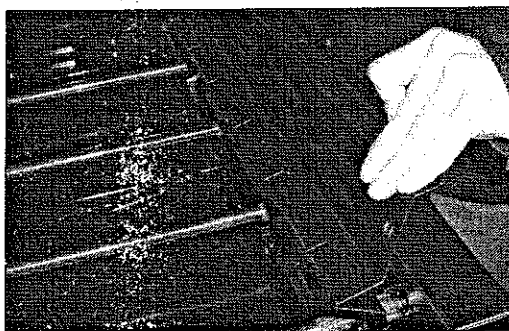

Fig 6
6. Lift the front heat shield out of the grill. (See Fig. 6)
26. Proceed with reattaching the front heat shield. (See Fig. 6 and 5 on page 2)